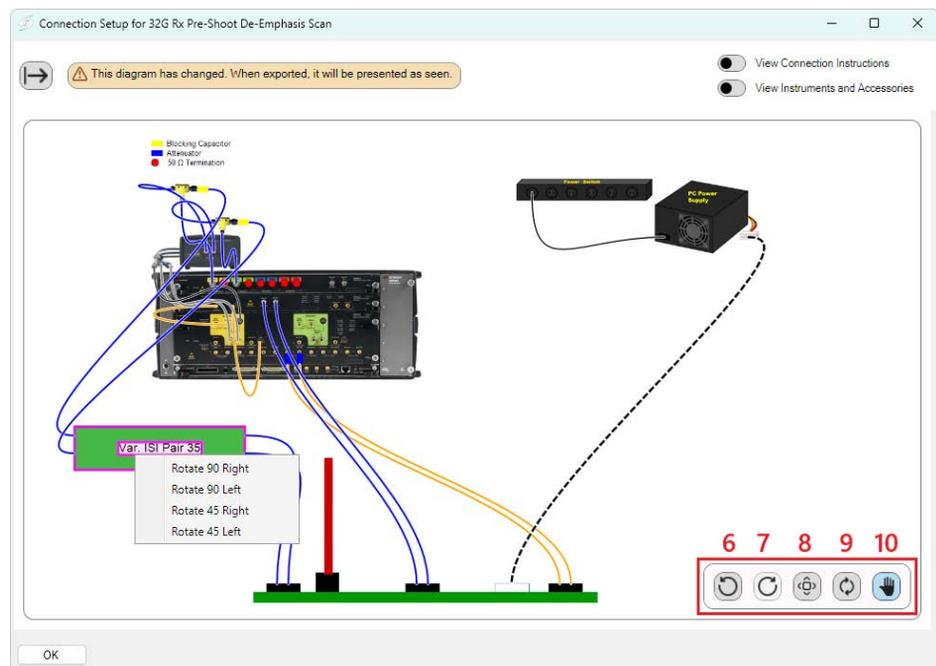

Figure 5-16 Example connection diagram dialog – Export Mode view
- 1 **Export Mode:** Click here to change the layout of the connection diagram before exporting it (Figure 5-16).
In the Export Mode view (Figure 5-16), you can change the layout of the connection diagram before exporting it.
- To **rotate** an instrument: Double left click to select an instrument, then right click. Select the required rotation from the pop-up menu (see Figure 5-16).